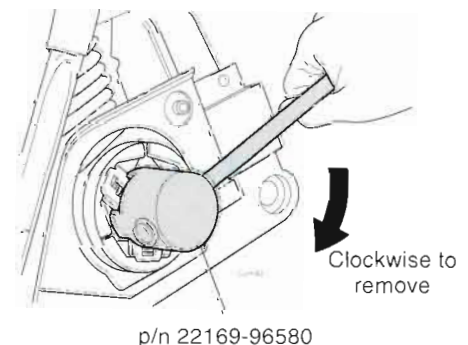

Figure 6.13 Removing the 757 Clutch Shoe Assembly
STEP 6. Using clutch shoe puller tool p/n 22169-96580, rotate the clutch shoe assembly clockwise to remove (Figure 6.13).